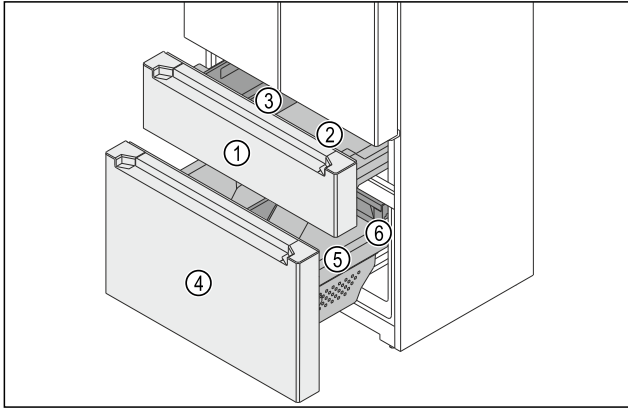

Fig. 148 Freezer section pull-out telescopic drawers
- (1) Upper telescopic unit
- (2) Container
- (3) FlexBox
- (4) Lower telescopic unit
- (5) Container
- (6) Drawer
The freezer section consists of two pull-out telescopic drawers. The upper telescopic unit Fig. 148 (1) contains a container Fig. 148 (2) and a FlexBox Fig. 148 (3). The lower telescopic unit Fig. 148 (4) contains a large container Fig. 148 (5) and a drawer Fig. 148 (6). The containers in the upper and lower telescopic units can be removed for cleaning.